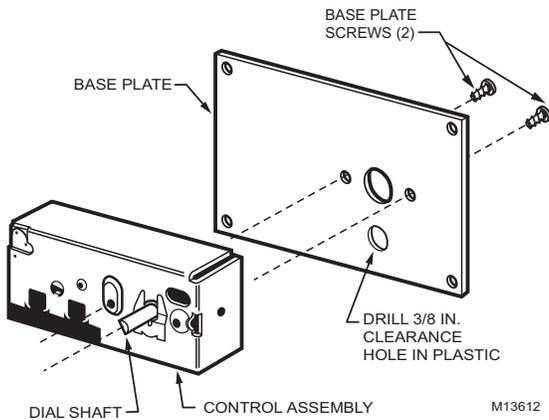

Fig. 45. Mounting Humidistat.
8. To assemble control for wall mounting (See Fig. 45):